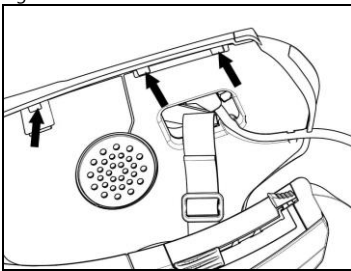

Fig. 14
- Reposition the plastic lining of the cheek padding, arranging it behind the two small stop hooks (Fig. 14).